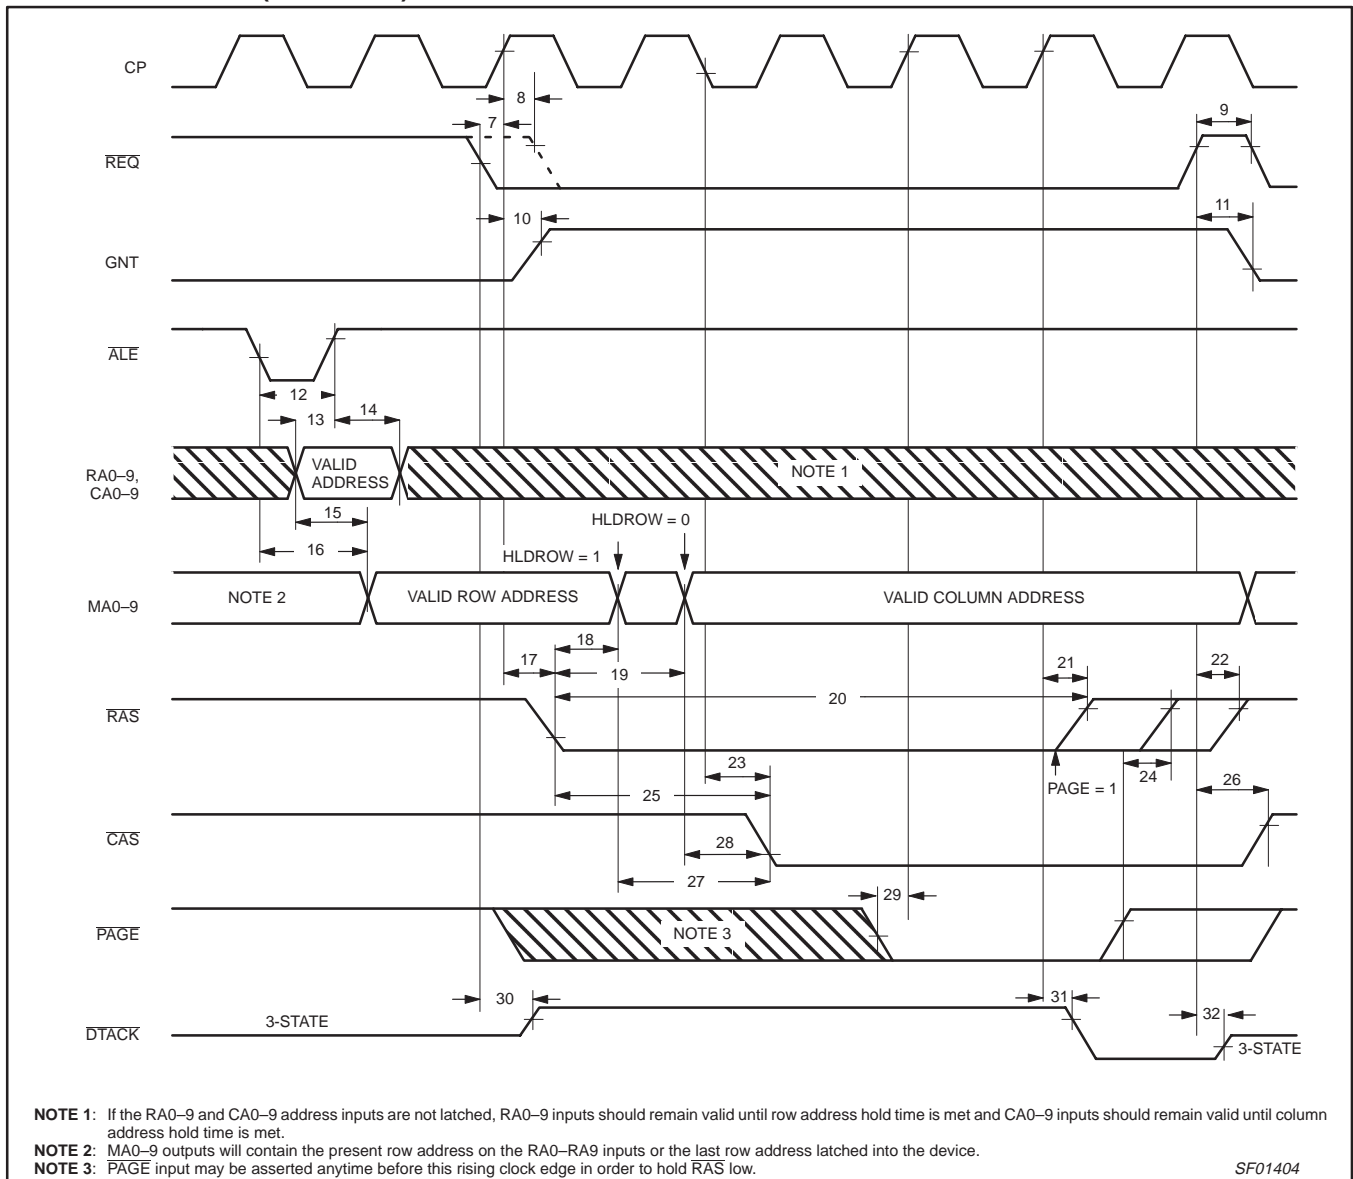

Figure 2. Memory access cycle timing
3. When  $\overline{ALE}$  is Low, the address input latches are in the transparent mode and therefore any changes in the address inputs will be propagated to the MA0–9 outputs. Figure 2 illustrates RA0–9 inputs propagating to the MA0–9 outputs, but later in the cycle, if  $\overline{ALE}$  is still Low when the CA0–9 inputs are multiplexed to the MA0–9 outputs the CA0–9 inputs will be in the transparent mode.